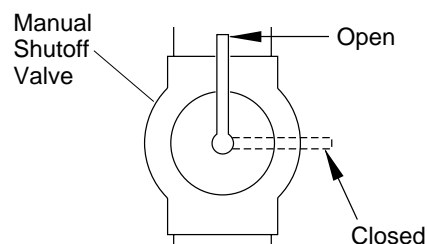

Figure 14 - Manual Shutoff Valve
1. Close manual shutoff valve (see Figure 14).
1. Open manual shutoff valve (see Figure 14, page 10).